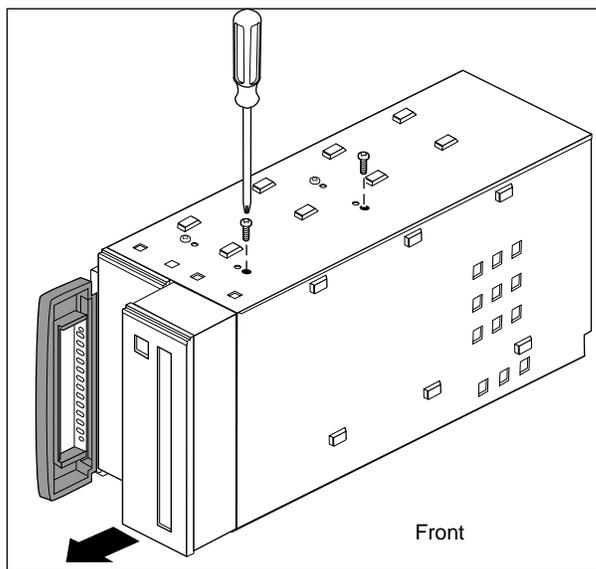

Figure 6-8 Removing a Drive From the Peripheral Carrier
5. Remove the screws that hold the drive to the peripheral carrier and remove the drive from the carrier, as shown in Figure 6-8.